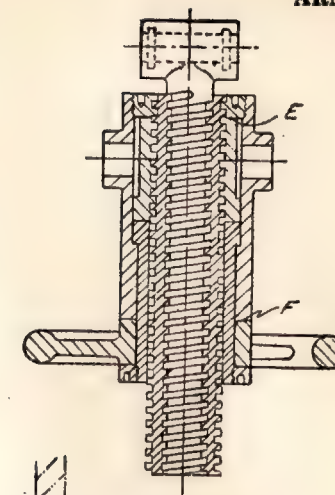

Fig. 2
**ELEVATING GEAR:**— End play of the Elevating Nut can be taken up by inserting at "E" (See Fig. 2) one or more of the packing washers provided, but steps should first be taken to ensure that the Tumbler Nut is screwed home.
When the axis pin holes in the Tumbler trunnions are worn, the trunnions can be swaged inwards by means of Ring Punch (B). When there is an appreciable amount of end play between the Handwheel and the Tumbler, and it is not possible to further tighten the Handwheel Nut, the play can be taken up, either by prolonging the screw thread on the Handwheel Bush, by filling, so allowing the Handwheel Nut to be screwed further on, or by inserting a suitable washer between the Handwheel and the Tumbler at "F" (See Fig. 2).